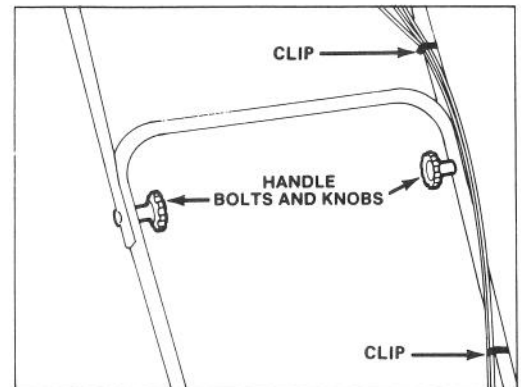

Figure 2
2. UPPER HANDLE (Fig. 2) — Secure upper and lower handles in place with handle bolts and knobs. Control cables must be in front of lower handle cross member. Secure control cables in position with cable clips.